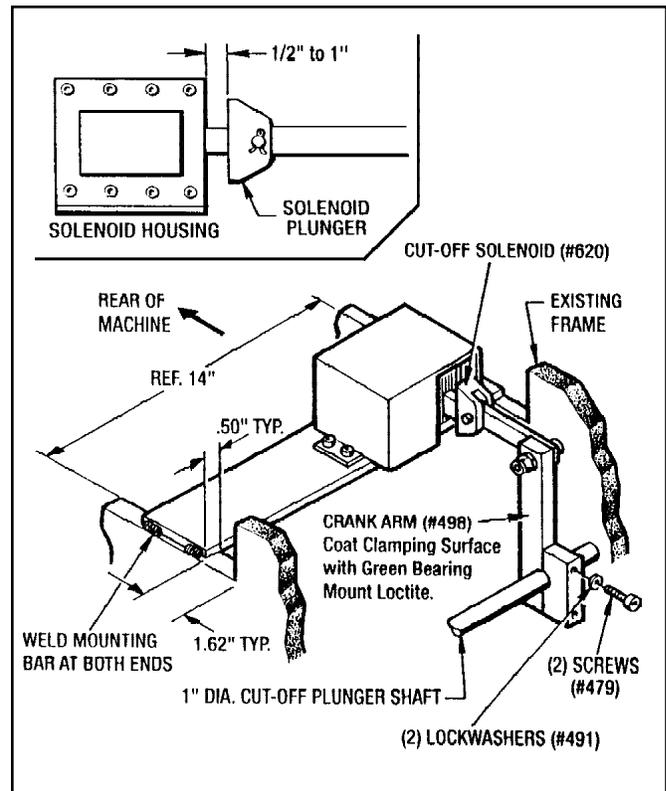

Figure 2.5 - Installing Cut-Off Actuator
A. Cut-Off Actuator (See Figure 2.5)
1. Position the Cut-Off Actuation Assembly into the machine as shown in Figure 2.5.
3. Clamp the Crank Arm around the Cut-Off Shaft. It must be positioned to allow a 1/2" to 1" gap between the solenoid plunger and housing when pin is engaging clutch cam as shown in Figure 2.5.